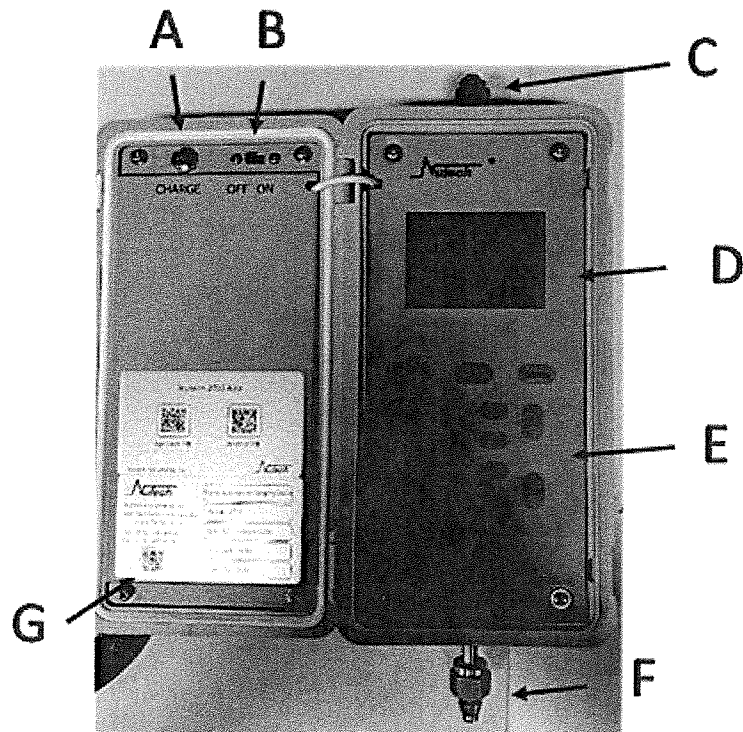
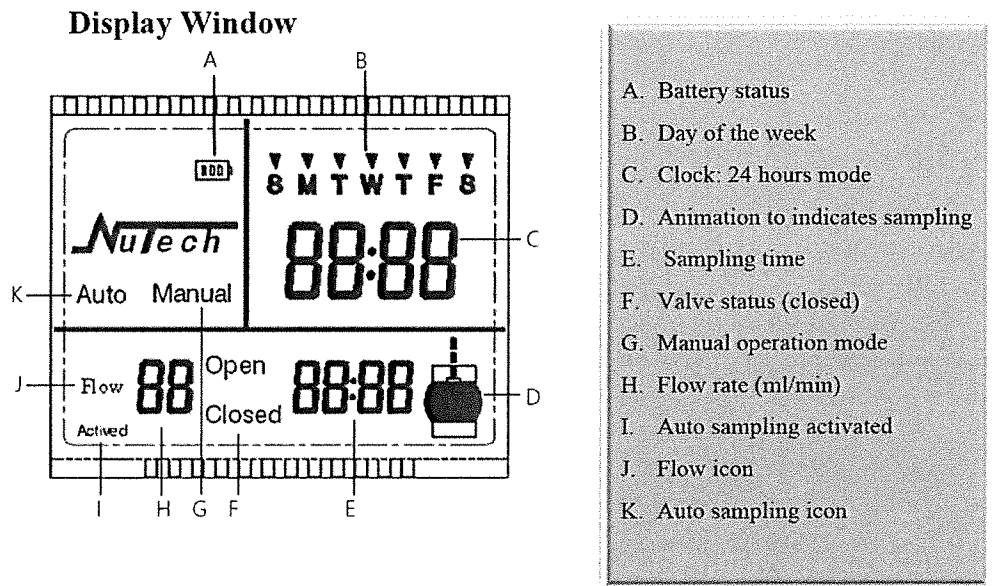

Figure 5: Nutech 2703 controller touch panel.
Figure 6: Display window of the Nutech 2703 controller.
- The Nutech 2703 touch panel (Figure 5) is used to set up a manual sampling event. The display window will show the specific details related to the sampling event such as, but not limited to, date/time, flow rate, and duration (Figure 6). The display window will show sampling details whether you set it up on a laptop, iPhone/Android, or manually.